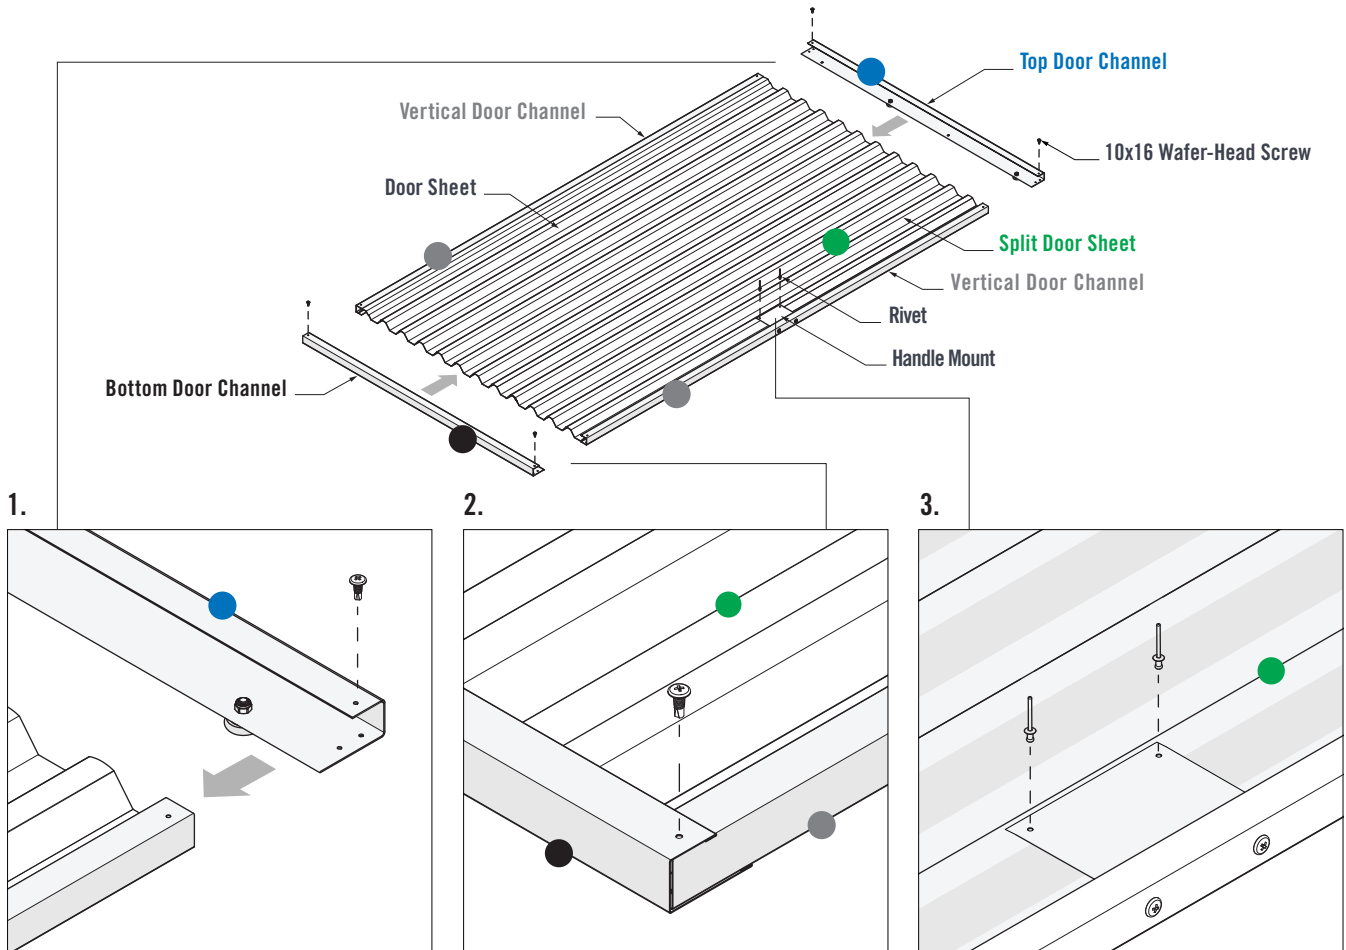

FIGURE 6.5
1. Fit the Vertical Door Channels over the side of the door sheets, then fit the Top and Bottom Door Channels over the door sheet ends. Ensure the lip of the Top and Bottom Door Channels fit over the Vertical Door Channels (Figure 6.5).
2. Fasten one 10x16 Wafer-Head Screw through the pilot holes in the corner of each Top & Bottom Channel and into the Vertical Door Channels (Figure 6.5).
3. Drill two 3.5mm holes through the Handle Mount and into the Split Door Sheet. Install two coloured Rivets (Figure 6.5).